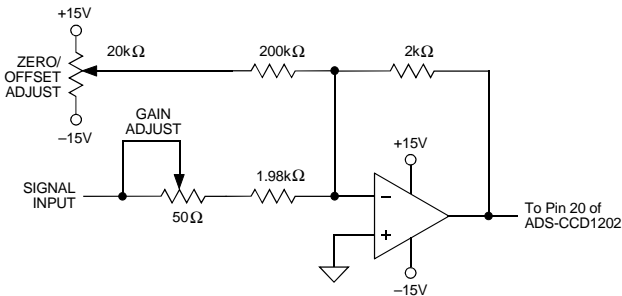

Figure 2. ADS-CCD1202 Calibration Circuit
Bypass all power supplies, as well as the REFERENCE OUTPUT (pin 21), to ground with 4.7µF tantalum capacitors in parallel with 0.1µF ceramic capacitors. Locate the bypass capacitors as close to the unit as possible. If the user-installed offset and gain adjusting circuit shown in Figure 2 is used, also locate it as close to the ADS-CCD1202 as possible.
- ADS-CCD1202 achieves its specified accuracies without external calibration. If required, the device's small initial offset and gain errors can be reduced to zero using the input circuit of Figure 2. When using this circuit, or any similar offset and gain-calibration hardware, make adjustments following warmup. To avoid interaction, always adjust offset before gain.
(Refer to Figures 2 and 3)
Any offset and/or gain calibration procedures should not be implemented until devices are fully warmed up. To avoid interaction, offset must be adjusted before gain. The ranges of adjustment for the circuit of Figure 2 are guaranteed to compensate for the ADS-CCD1202's initial accuracy errors and may not be able to compensate for additional system errors.
All fixed resistors in Figure 2 should be metal-film types, and multi-turn potentiometers should have TCR's of 100ppm/°C or less to minimize drift with temperature. In many applications, the CCD will require an offset-adjust (black balance) circuit near its output and also a gain stage, presumably with adjust capabilities, to match the output voltage of the CCD to the input range of the A/D. If one is performing a "system I/O calibration" (from light in to digital out), these circuits can be used to compensate for the relatively small initial offset and gain errors of the A/D. This would eliminate the need for the circuit shown in Figure 2.